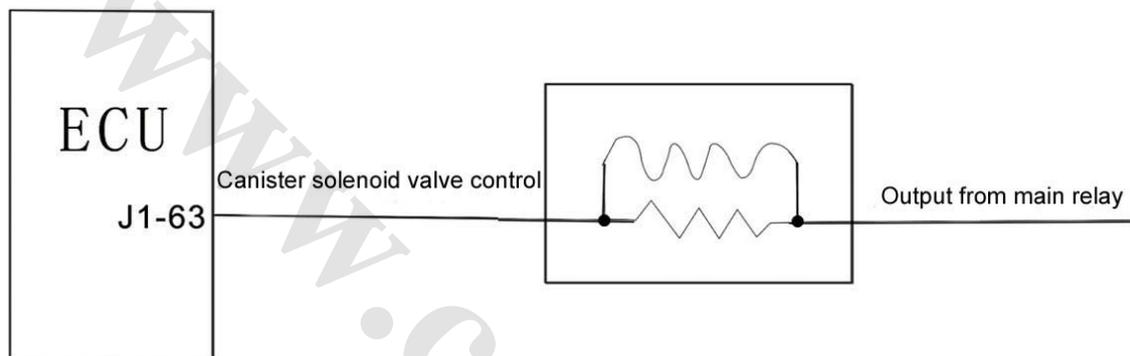

Fig. 1-20
(3) Trouble diagnosis: The ECU will carry out trouble diagnosis for the driving stage of the canister control valve. When the driving stage of the canister control valve is short or overloaded to the battery voltage, as well as short and open to the ground, the fuel ration closed loop control self-learning and the idle speed air ration self-learning will be closed, while the self-leaning data at that moment will be effective. When the canister solenoid valve is under trouble, the engine is likely to experience unstable idle speed or over-high idle speed.
(4) Parts circuit (Fig. 1-20)